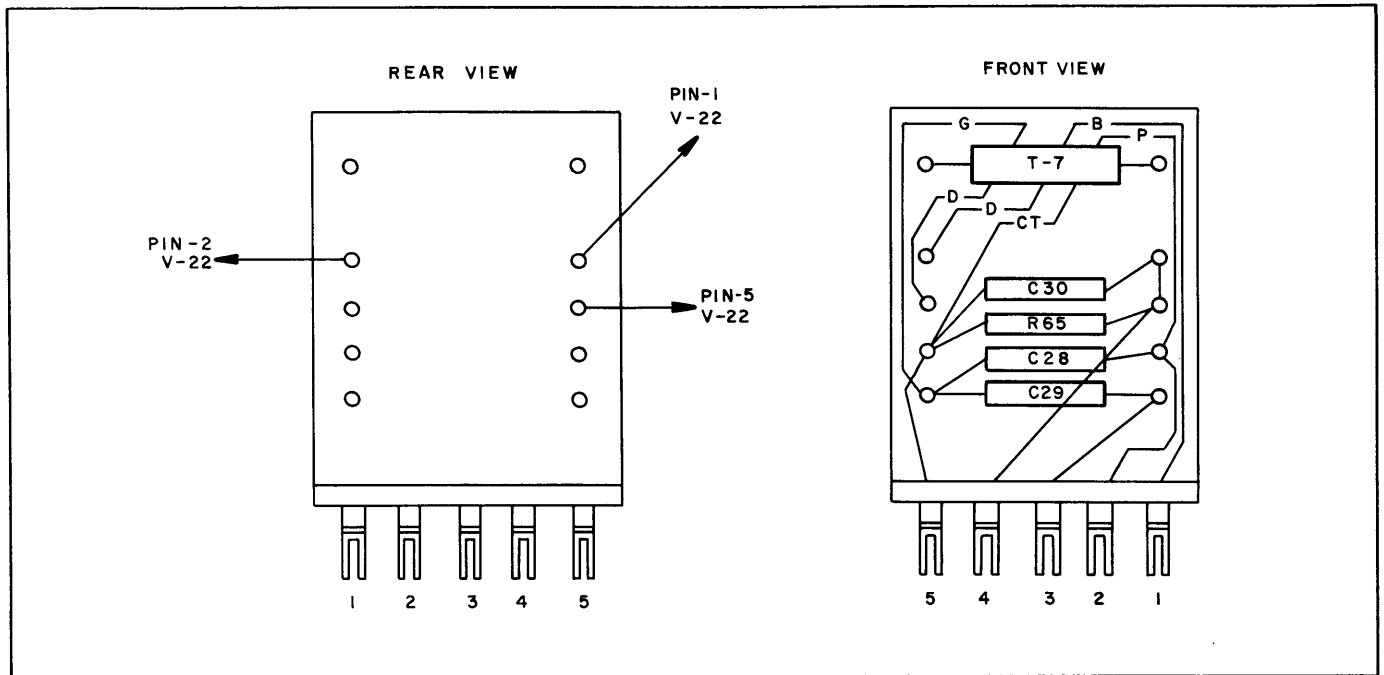

Figure 5-5. Oscillator Assembly Wiring Diagram
f. Assembly wiring diagram (figure 5-5)